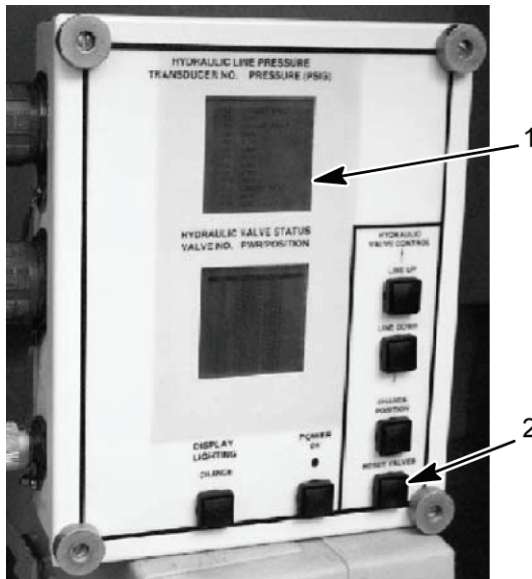

Figure 17. HDC Control Box
- Reset all HDC solenoid valves by selecting the RESET VALVES button (Figure 17, item 2) on the HDC control box.
- Have assistant start engine and actuate EJECTOR CONTROL lever (Figure 18, item 1) to BACK position. Read transducer T-2 hydraulic pressure on the HDC display (Figure 17, item 1). Pressure should be 3,950–4,050 psi (27,235–27,925 kPa).